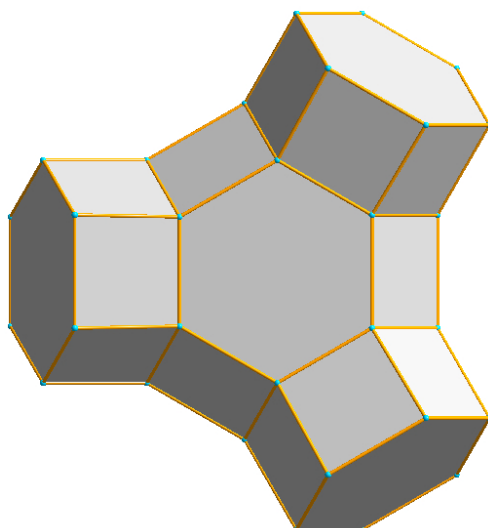

Fig. 65: The structure is again viewed towards the (1,1,1)-plane.
In the fourth and final step, the connection of the β -cages with each other will be visualized. For that, we have to change the orientation again in order to view along the (1,1,1)-axis: Choose the "Viewing Direction" command from the "Picture" menu, set the input fields next to "h,k,l" to 1, then confirm with "Set", then close the dialog box. You will now look at the structure picture in the direction perpendicular to the (111) plane (fig. 65). Again, you may have to press <F9> afterwards in order to readjust the enlargement factor.